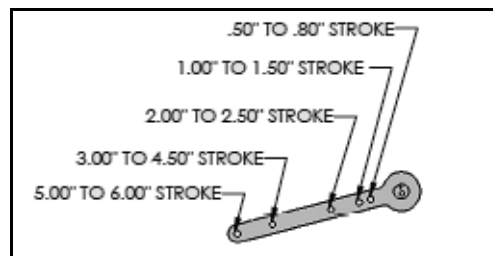

Figure 13 Stroke Settings
3. Set rod-ends and brackets to stroke and size of actuator. The default setting is a 4.00" stroke. Other stroke settings are as in Figure 13.